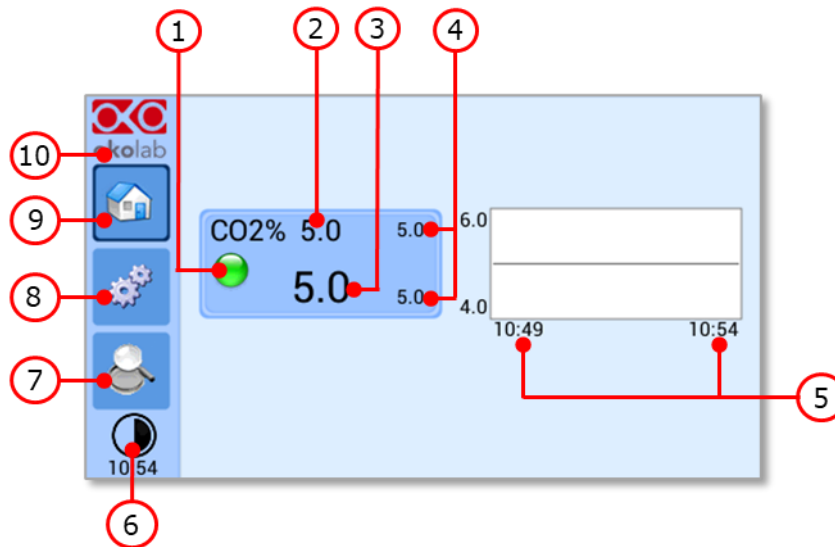
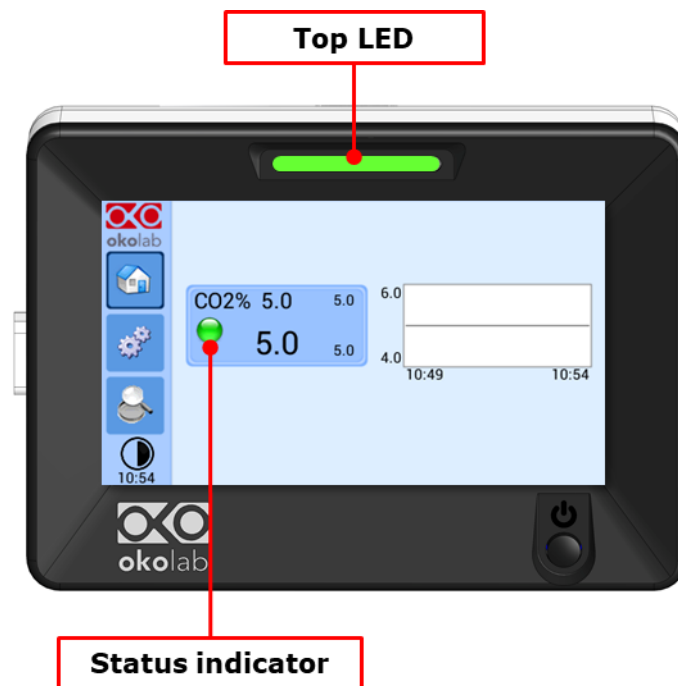

Figure 16. Homepage of CO2-UNIT-BL Touch Screen Display.
Figure 18. Status Indicator and TOP LED.
10. Once the system has been initialized the Status LED on the front of CO2-UNIT-BL will stop blinking and will turn steadily on. The Homepage will appear on the touch screen, the color of the Status Indicator (see 1 in Figure 16 and Figure 18) on the gas tab will be yellow at the start.
CO2-UNIT-BL can assume four different status, which are represented by the colors assumed by the Status Indicator and by the TOP LED (see Figure 18):
Tip ► The TOP LED follows the same color code as the Status Indicator (see Figure 18). To enable/disable the TOP LED follow the instruction reported in paragraph 9.2.2.3.